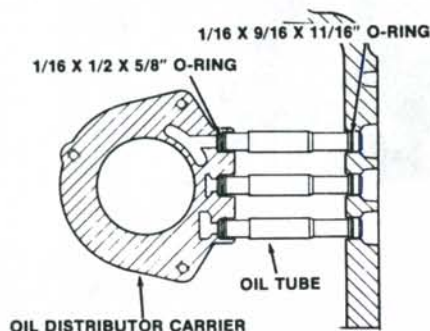

Fig. 162—View showing installation of oil distributor tubes and "O" rings for Model 2090, 2290, 2094 and 2294 tractors. Refer to text.
Install the three oil distributor tubes (71) with new "O" rings. End of tubes with smallest diameter go into torque tube and engage oil distributor carrier. See Fig. 162.